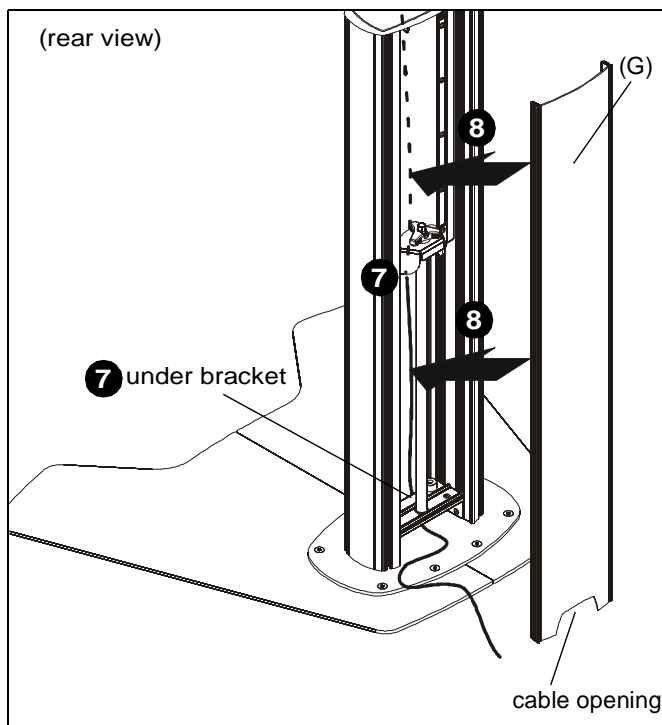

Figure 10
8. Snap back cover (G) onto back of column assembly making sure cables fit through opening at bottom of cover. (See Figure 10)